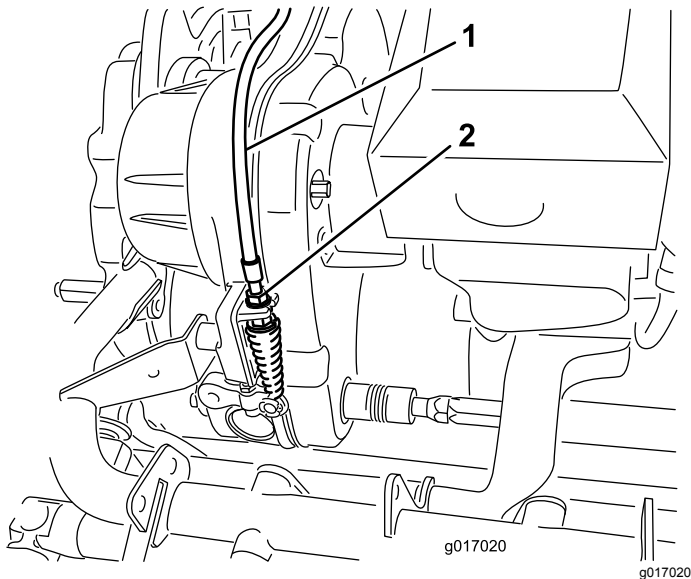

Figure 50
2. At the transmission bulkhead, adjust the reel-control cable (Figure 50) to attain a spring length of 70.6 to 72.4 mm (2.78 to 2.85 inches).